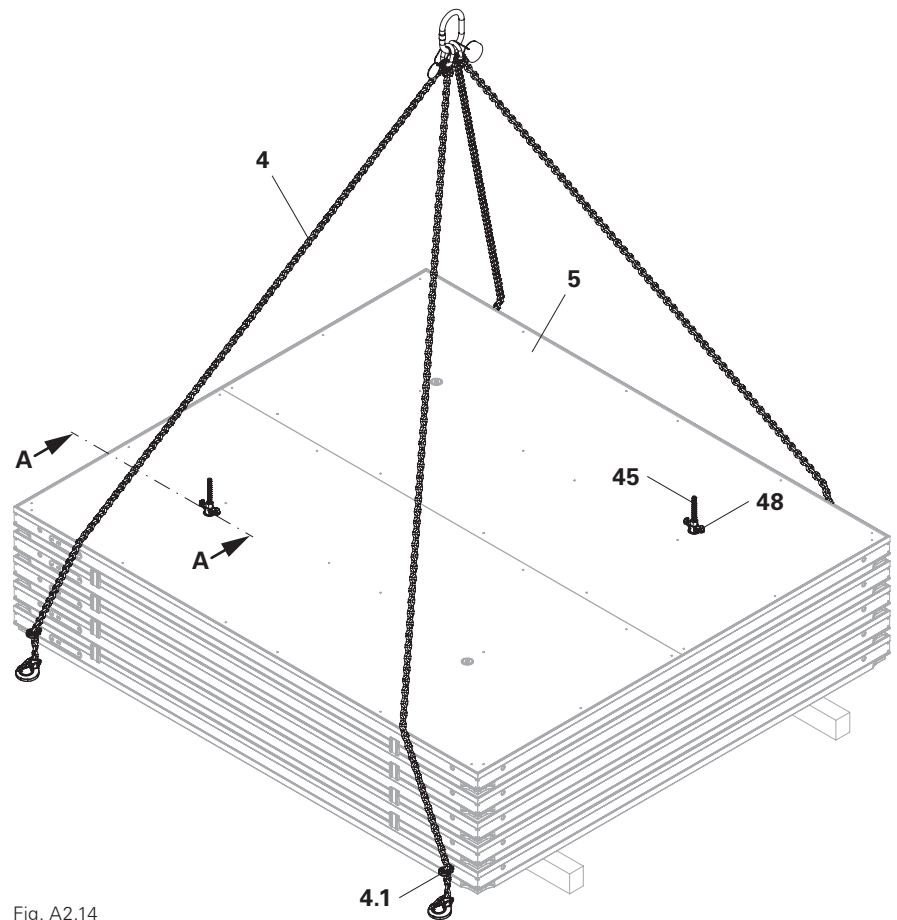
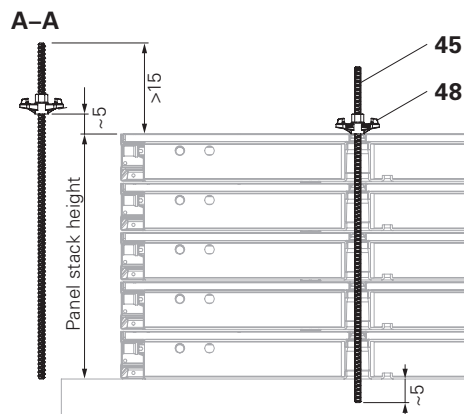

Fig. A2.14
Fig. A2.14a
(Fig. A2.14 + Fig. A2.14a)
1. Cut Tie Rod DW20 (45) to the specified length.
2. Turn Wingnut DW20 (48) onto Tie Rod DW20 (45).
Leave approx. 5 cm clearance between the stack and Wingnut DW20 (48). (Fig. A2.14a)
4. Insert 2x Tie Rods DW20 (45) into the opposite tie points in the corners of the Panels MX-2 (5) until the Wingnut DW20 ga (48) is in contact.
→ The Panels MX-2 (5) are prevented from slipping by the Tie Rods DW20 (45). (Fig. A2.14a)